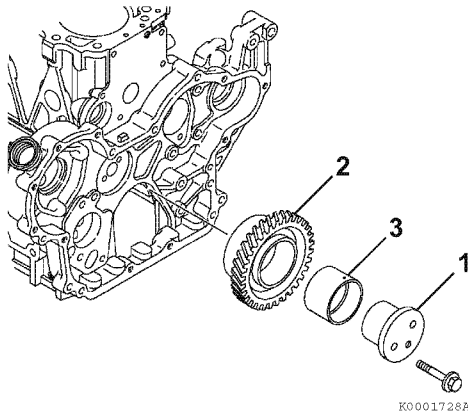

Figure 6-45
1. Remove the bolts from the idler gear shaft (Figure 6-45, (1)). Remove the idler gear shaft, idler gear (Figure 6-45, (2)) and bushing (Figure 6-45, (3)).